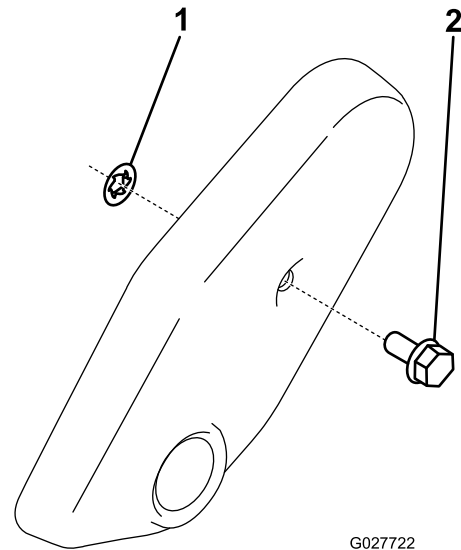

**Figure 6**
4. Secure the threaded end of the weight rod to the frame using a flange-head bolt (Figure 6).